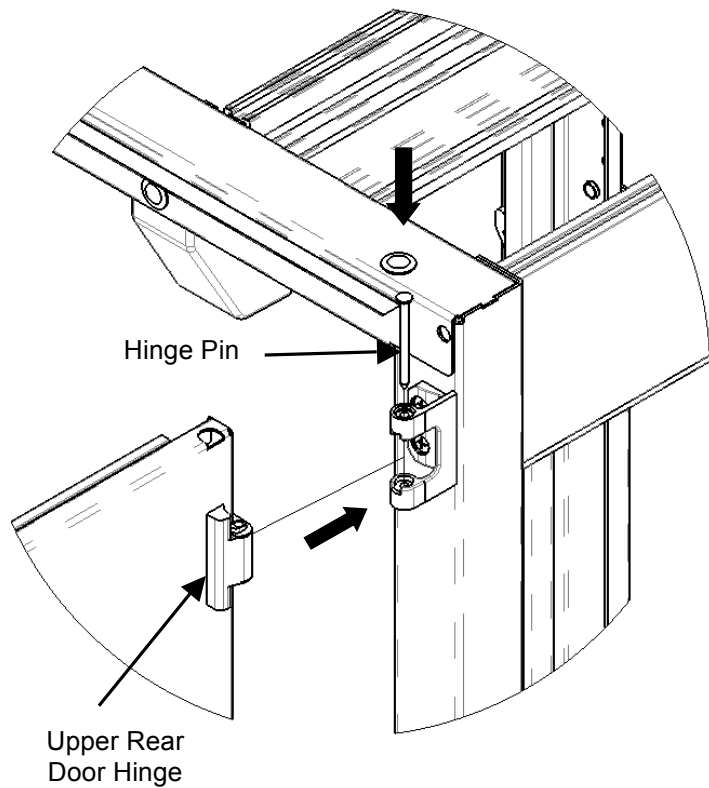

Fig. 2
3. Hold one door firmly with a hand on each side. With the door held perpendicular to the cabinet, slide the door onto the hinges and rotate to close (Fig. 2).
4. Insert the hinge pins into the hinges from the top. Push the pins down into the hinges until their tops are flush with the tops of the hinges. It may be necessary to lightly tap on the tops of the pins to seat them (Fig. 2).